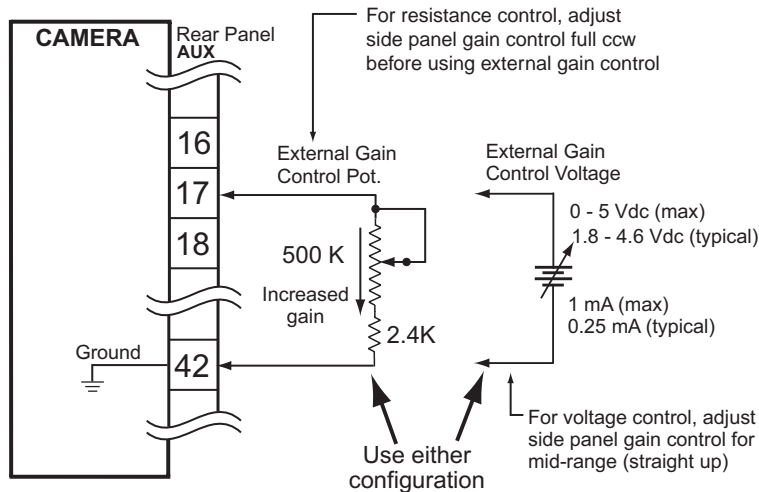

Figure 7. External Gain Control Circuits
5. Auxiliary input control (see figures 7 and 8)
Manual control of gain from an external source requires connection of either a voltage source or a potentiometer to pin 17 of the auxiliary connector. Figure 7 illustrates this connection.